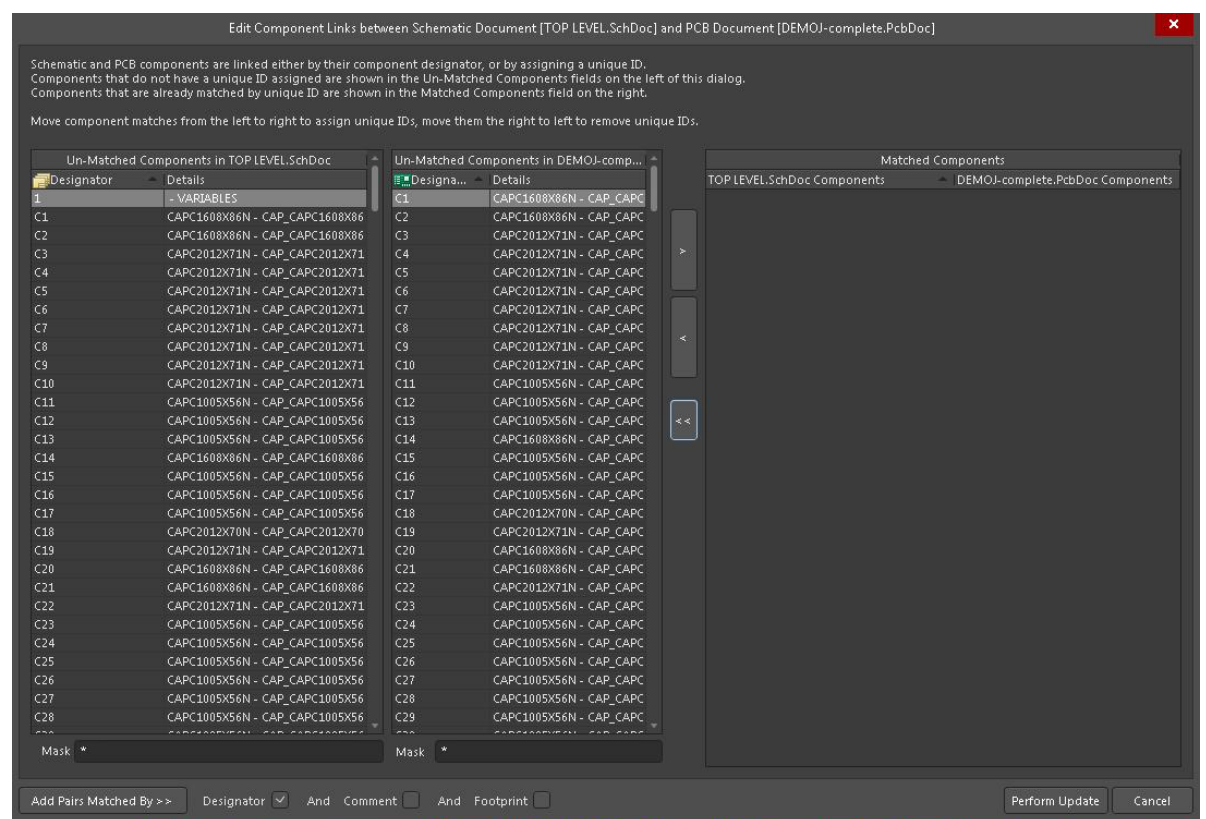

Fig. C.1 - The Edit Component Links dialog (Project » Component Links)
1. Open the DemoJ-complete.PcbDoc file and run the **Project » Component Links** command – the *Edit Component Links* dialog appears (Fig C.1).